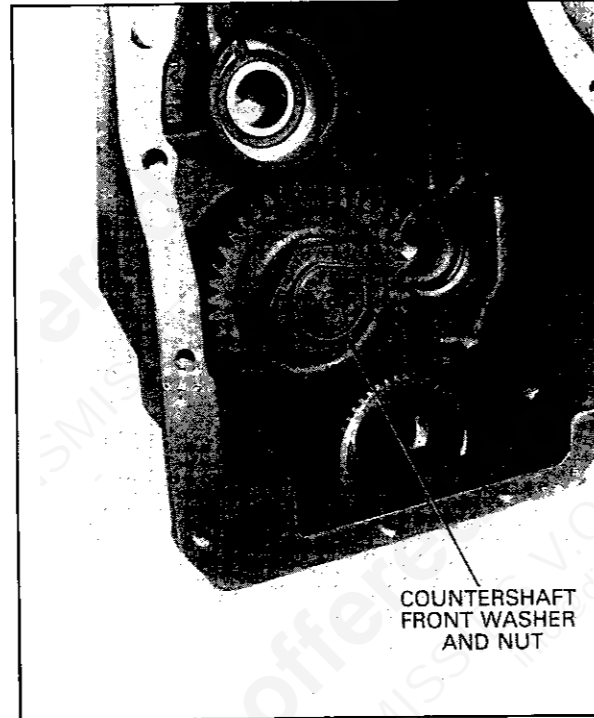

FIG. 36 COUNTERSHAFT FRONT NUT INSTALLATION
36. Position the holding tool in mesh with the front countershaft gear and install the flat washer and nut (Fig. 36). Tighten the nut to 500-550 pounds-feet (678-746 N·m). Drive the thin section of the nut down against the flat on shaft to retain nut to shaft.